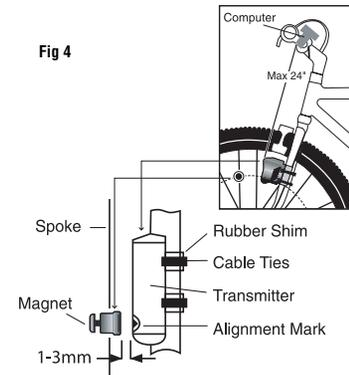

Fig 4
STEP 1: Using the included zip-ties, loosely mount the transmitter (so that you can slide it around) to the leading edge of the left fork blade with the transmitter battery cap facing up. See Figure 4. The Delta R wireless transmission range is 24" (60cm). The transmitter must be mounted no further than 24" from the receiver (computer head) to properly transmit the signal.
STEP 2: Attach the wheel magnet loosely to one of the spokes on the same side of the wheel as the transmitter. Adjust the position of the magnet and transmitter by sliding both pieces up or down until the magnet passes the alignment mark on the transmitter with a clearance of 1-3mm (1mm is about the thickness of a penny). See Figure 4. If the magnet and transmitter are not close enough, computer readings will be inconsistent, erratic or completely absent. Most problems that occur when installing a new computer are related to magnet and sensor alignment and spacing.